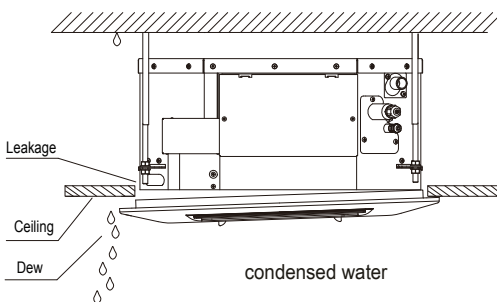

Fig.5-13
- The fault described in Fig.5-13 can be caused if screws are not tightly fastened